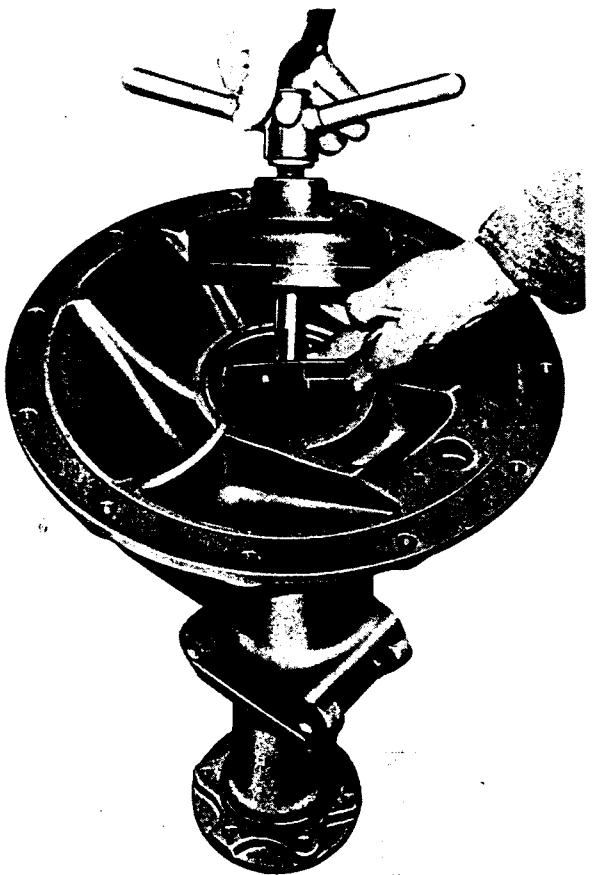

FIG. 11
After withdrawal of axle assembly from housing, the differential bearing cup (21) can be removed, using Service Tool FT.32A, as shown in Fig. 11.